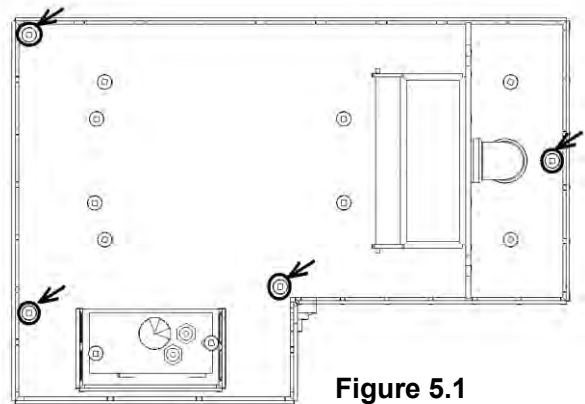

Figure 5.1
- Unscrew the four screws from the SmartCase[®] as illustrated in figure 5.1.